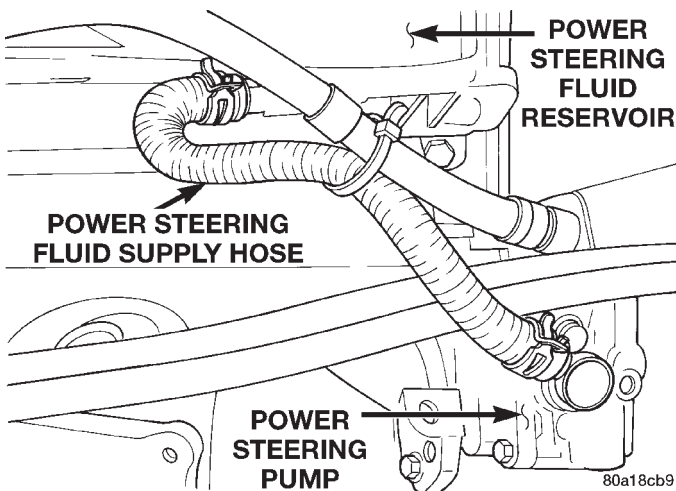

Fig. 7 Power Steering Fluid Supply Hose 2.0 And 2.4 Liter Engine
(2) Remove the tie-strap (Fig. 7) holding the power steering fluid supply hose to the power steering pressure hose.
(3) Remove hose clamp, attaching power steering fluid supply hose to power steering fluid reservoir (Fig. 7). Then remove power steering fluid supply hose from power steering fluid reservoir.
(2) Install power steering fluid supply hose on power steering fluid reservoir fitting. Install hose clamp on power steering fluid supply hose at power steering fluid reservoir (Fig. 7). **Be sure hose clamp is installed on return hose past upset bead on power steering fluid reservoir.**
(3) Install power steering fluid supply hose on power steering pump fitting. Install hose clamp on power steering fluid supply hose at power steering pump fitting (Fig. 7). **Be sure hose clamp is installed on power steering fluid supply hose past upset bead on power steering pump fitting.**
(4) Install the tie-strap (Fig. 7) holding the power steering fluid supply hose to the power steering pressure hose.